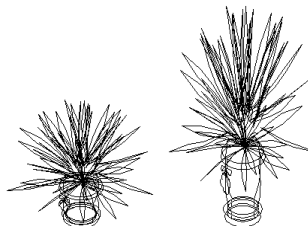

Fig. 291 – an example object in 1:1 and scaled
- an example of the object scaled in one axis only (Z) is presented on the illustration below (Fig. 291).